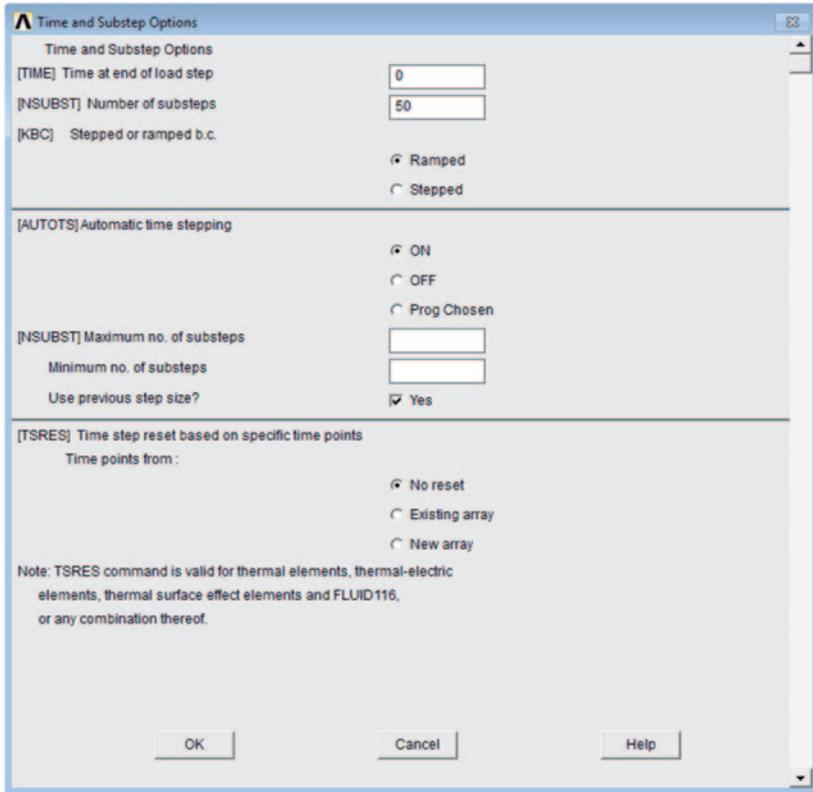

Fig. 9.25 Time and Substep Options dialog box
- Type **50** in the *second text field* corresponding to *NSUBST* (Fig. 9.25).